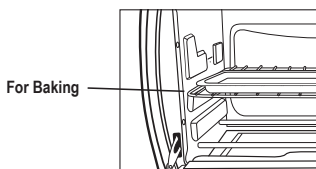

Figure 12
- To accommodate a wide variety of foods the oven has two pan positions. The pan can be placed on top of the rack or inserted into the guide rails below the rack. (See Figures 12 & 13)